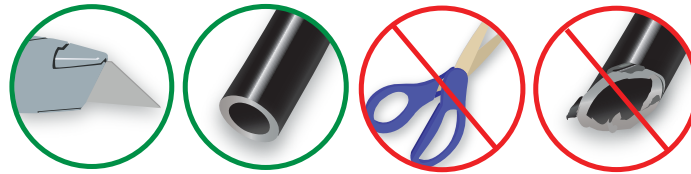

fig. 9
WHEN CUTTING OR TRIMMING THE AIR LINE, USE A SHARP UTILITY KNIFE. A CLEAN, SQUARE CUT WILL ENSURE AGAINST LEAKS. DO NOT USE WIRE CUTTERS OR SCISSORS TO CUT THE AIR LINE. THESE TOOLS MAY FLATTEN OR CRIMP THE AIR LINE CAUSING IT TO LEAK AROUND THE O-RING SEAL INSIDE THE ELBOW FITTING (FIG. 9).
7. Drill 5/16" hole for inflation valves and mount as illustrated. The rubber washer is for outside weather seal (Fig. 9).